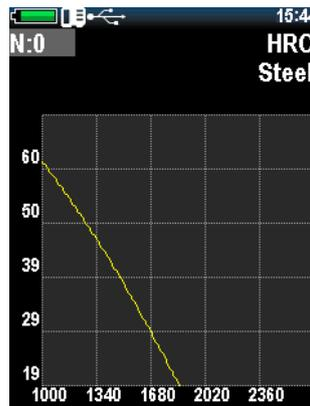

Figure 2.35 – The Graduation window
3. Press < >, and the calibration window will open on the display (Figure 2.35).